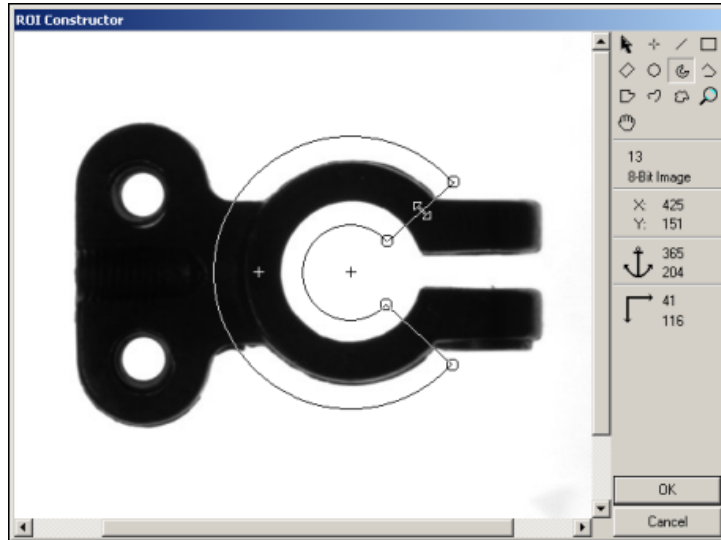

Figure 3-2. ROI Constructor
1. Use `imaqConstructROI()` to display an image and the tools palette in an ROI constructor window, as shown in Figure 3-2.